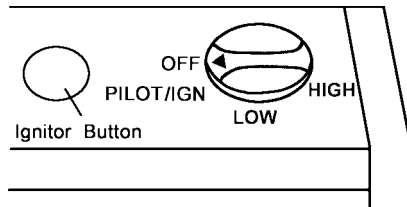

Figure 16 - Control Knob In The OFF Position
3. Push in gas control knob slightly and turn clockwise ↻ to the OFF position.(see Figure 16)
4. Wait five (5) minutes to clear out any air. Then smell for gas, including near the floor. If you smell gas, STOP! Follow "B" in the safety information on the side of the heater. If you do not smell gas, go to the next step.
5. Push in gas control knob slightly and turn counterclockwise ↻ to "PILOT/IGN" and depress for five(5) seconds